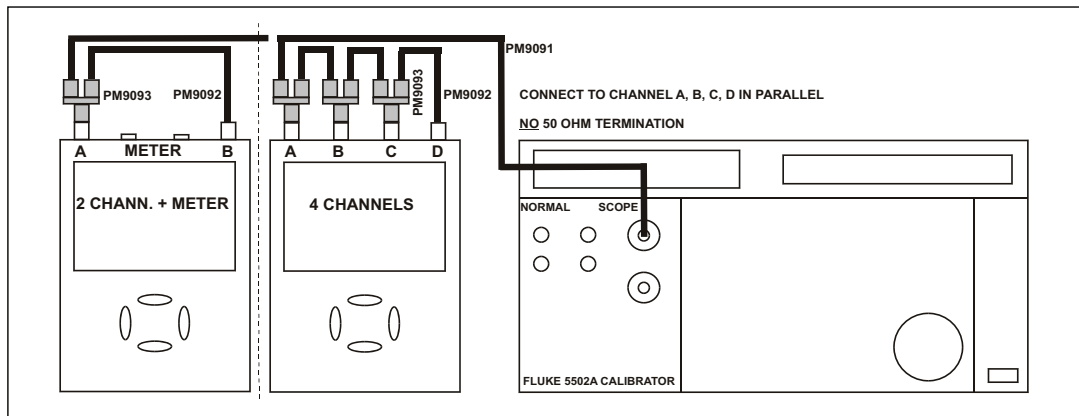

Figure 5-7. Test Tool Input ABCD to 5502A SCOPE Output
2. Connect Ch. A and B of the Test Tool to the 5502A as shown in Figure 5-7.